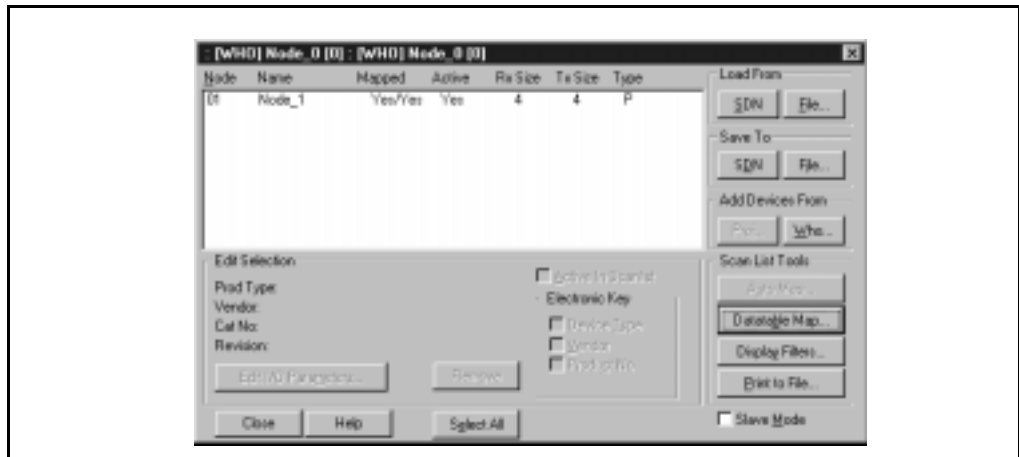

Figure 4.14 – Scan List Editor Dialog Box
Step 3. Click **OK** to download the new configuration to the SLC. The Scan List Editor dialog box (see figure 4.14) reappears.